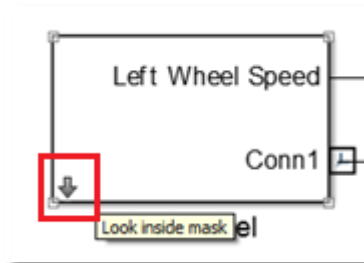

Figure 34 - Look inside mask
5. Click on the badge as shown in Figure 34 to 'Look inside mask' of one of the wheel subsystems and navigate to either the 'Left' or 'Right' motor subsystems.